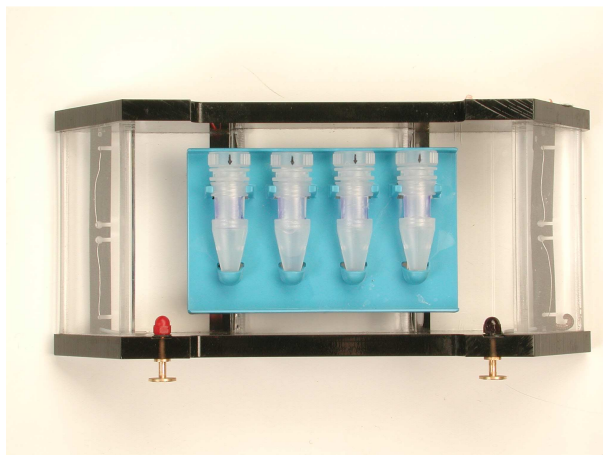

Figure 4. Supporting Tray containing four D-Tube Dialyzers in a horizontal electrophoresis tank. Membranes of each tube are perpendicular to the electric field.
5. Place Supporting Tray containing D-Tube™ Dialyzer(s) in a horizontal electrophoresis tank (such as tanks typically used for nucleic acid agarose electrophoresis) containing protein running buffer (see Figure 4).
5. Place Supporting Tray containing D-Tube Dialyzer(s) in a horizontal electrophoresis tank containing running buffer (see Figure 4 on p 7).